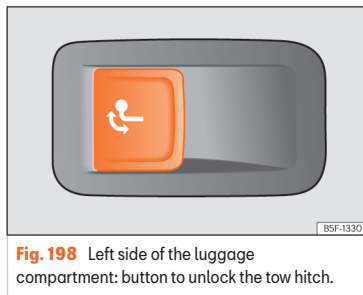

Fig. 198 Left side of the luggage compartment: button to unlock the tow hitch.
- Pull the >>> **Fig. 198** button briefly. The tow hook unlocks electrically and automatically turns outwards. The button's control lamp flashes.
- Pull the >>> **Fig. 198** button briefly. The tow hook unlocks electrically.
- **Never press the button >>> **Fig. 198** when there is a trailer hooked to the vehicle or when a carrier system or other accessories are mounted on the tow hook.**